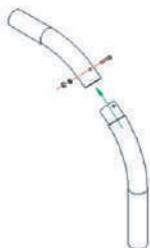

Fig.5
2. Inspect mounting arm; if split-arm is provided, use supplied nut and bolt to assemble arm as shown in Fig. 5.